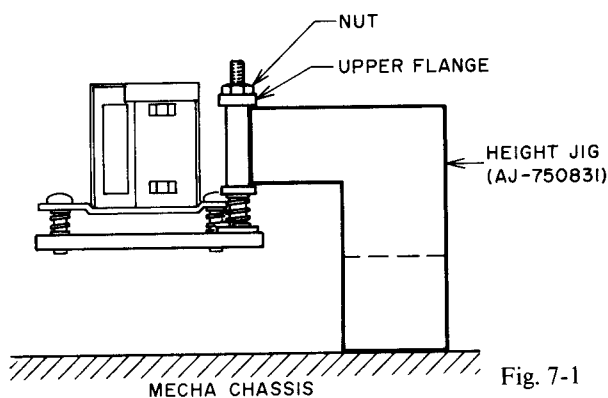

Fig. 7-1
### 7-1. TAPE GUIDE (R) ADJUSTMENT (Refer to Fig. 7-1)
- 2) Set the height Jig (AJ-750831) on the Mechanism chassis as shown in Fig. 7-1 and check the height of the lower face of the upper flange. If necessary, carefully adjust by turning the nut.